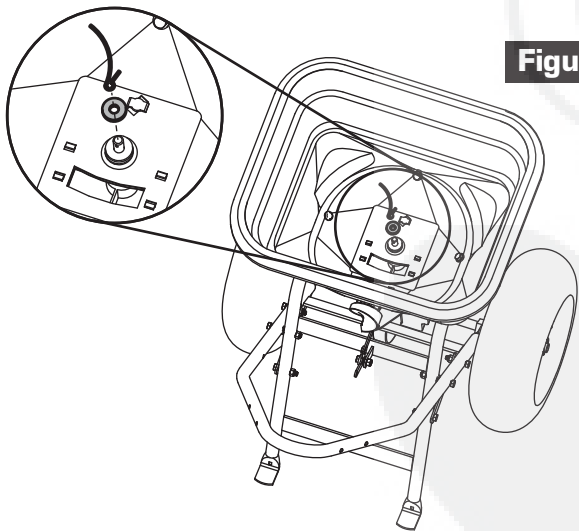

Figure 7
7. Inside the hopper, assemble the Felt Washer and Agitator Wire onto the Spinner Shaft as shown in Figure 7.
NOTE: Notice orientation and sweep of Agitator Wire (Shown in Figure 7).